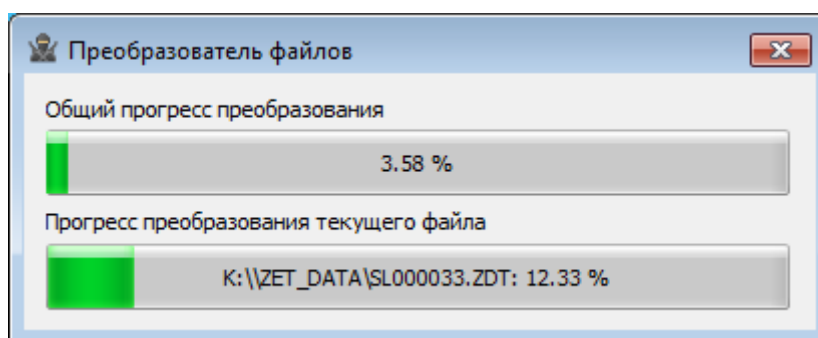

Figure 3.16 Conversion process of the recorded signals
4. Select the time span you need and click “Apply”. This will start saving and conversion of the files to the PC directories selected for signals saving (Figure 3.16).